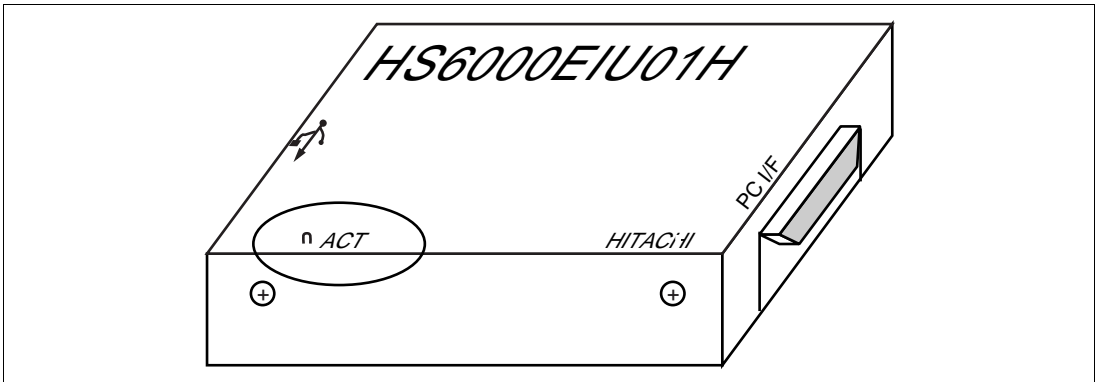

Figure 8 LED for Displaying the Communication State
- The USB adapter has an LED for displaying the communication state as shown in figure 8. This LED will be lit if an error occurs in the USB interface communication. If this LED is lit after above items 1 and 2 have been checked and have no problems, turn the emulator and the user system off, remove the USB cable from the USB adapter, and connect them again.